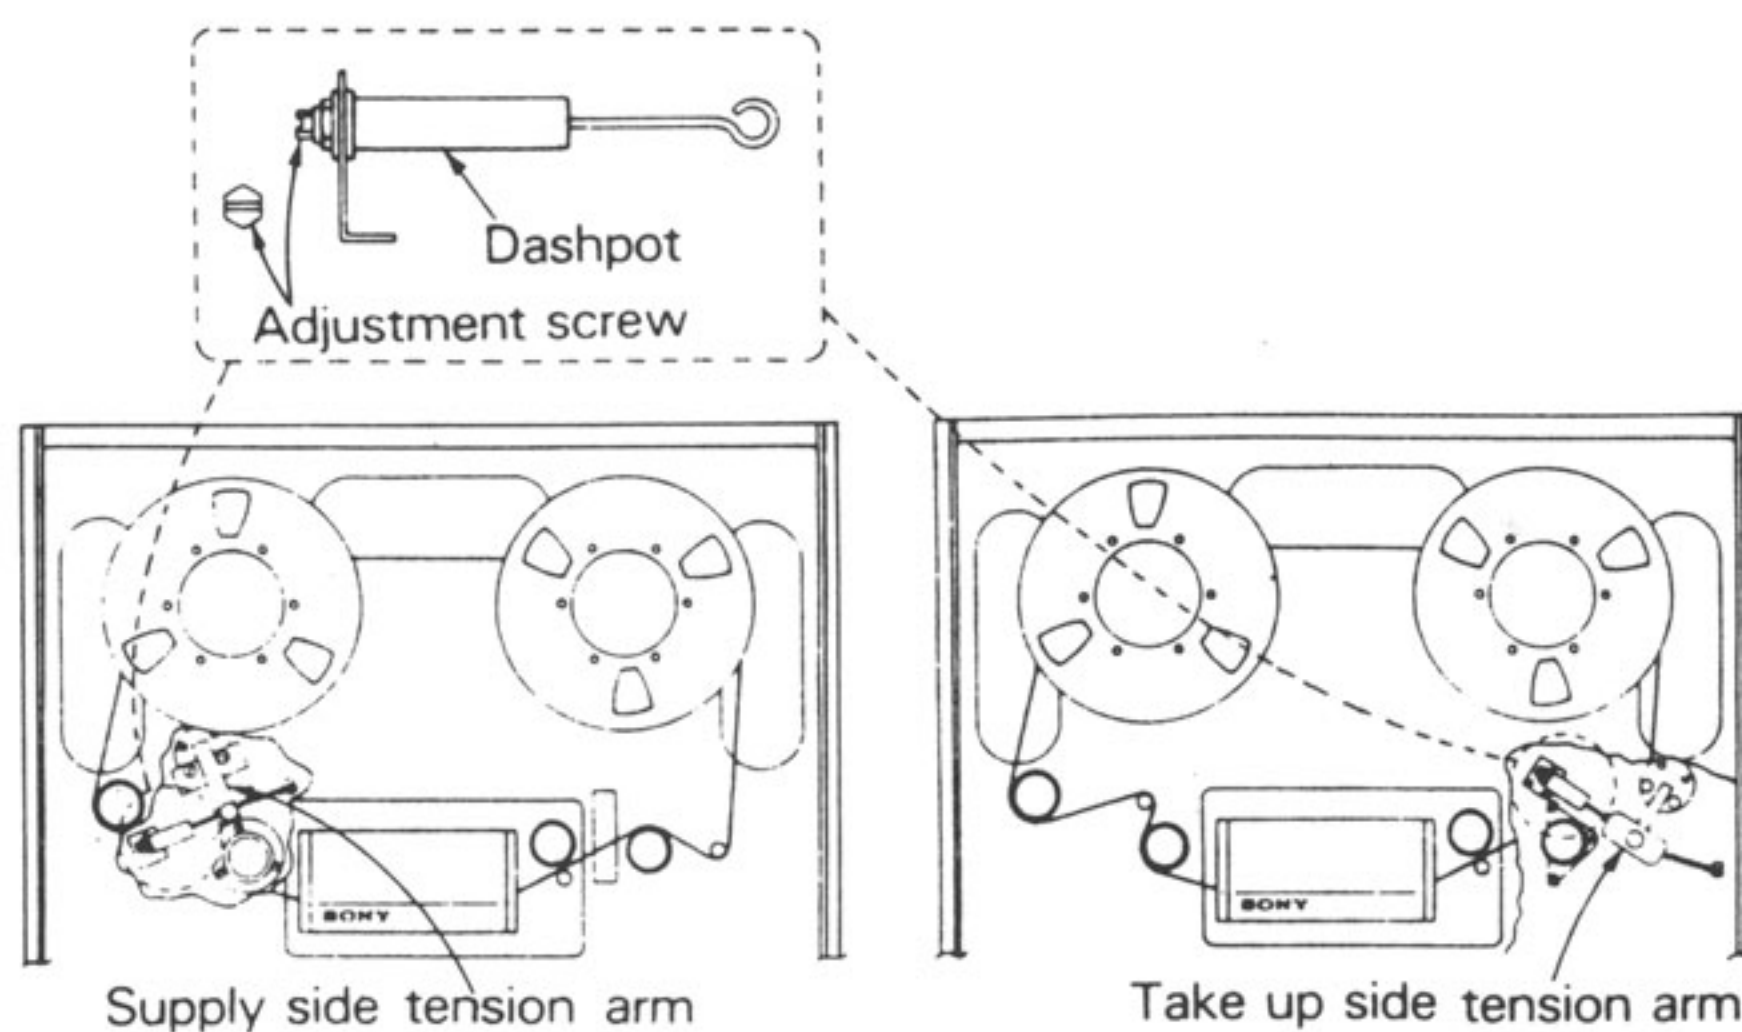

Figure 7-9. Tension Arm Dashpot Dampening
STEP 6. If the dampening is unsatisfactory, turn the adjustment screw on the take-up tension arm dampening dashpot, as shown in Figure 7-9, clockwise to increase the dampening or counter-clockwise to decrease the dampening. Return to STEP 5.